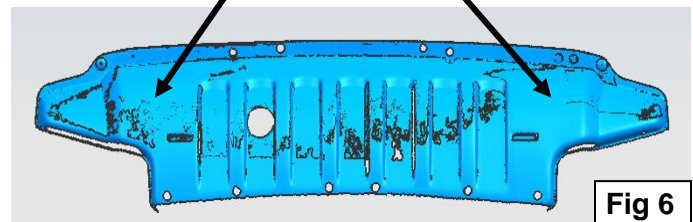

Fig 6
8. Position the splash guard back up to the vehicle and attach with the factory hardware. Estimate the amount of cutting required to clear the Brackets and Bull Bar. Mark the location of the Mounting Brackets onto the back of the splash guard, **(Figures 6)**. **NOTE:** To maintain the integrity of the plastic Splash Guard, remove only material necessary to clear the Bull Bar and Brackets. Make small cuts and check the fit often before final installation. Reinstall the splash guard with factory hardware.